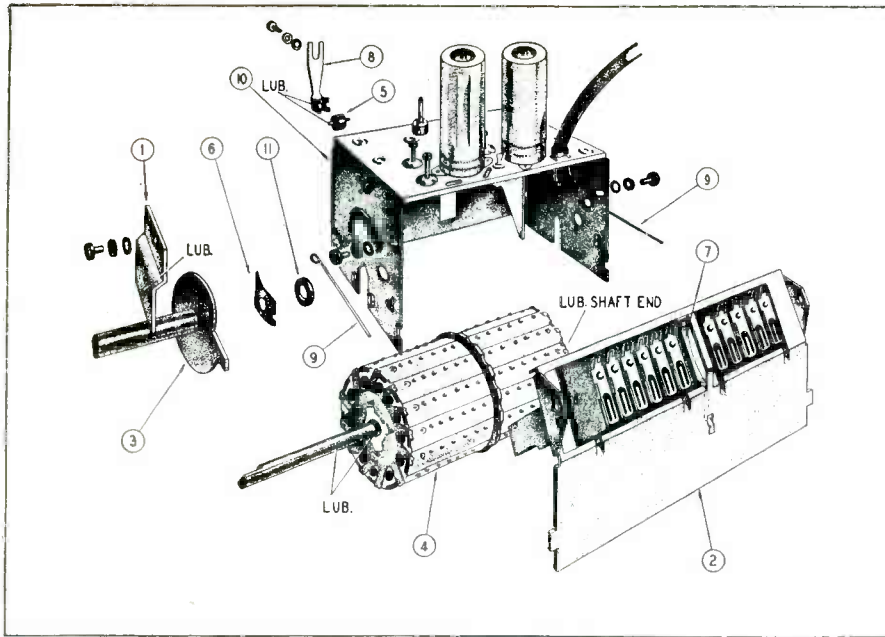

Fig. 3-58: Exploded view of Philco 12-position turret tuner. Item 8 in this figure is the detent roller pressure spring. The roller itself is shown as item 5.
anism consists of a roller (see *Fig. 3-62*) which rotates in a grooved plate mounted around the approximate center of the drum. Pressure of this roller against the grooves is applied by means of a spring (see items 8 and 5 in *Fig. 3-58*) mounted on the tuner chassis. Spring tension is controlled by moving this spring along its holding screw and nut until the roller provides maximum tension with the drum.
It has been found by at least one manufacturer that the retainer spring of the Standard Tuner (see item 6, Fig. 3-58) which supports the turret in the tuner housing, often does not exert sufficient pressure against the turret, resulting in poor indexing. To correct this condition a .057" spring is recommended to replace the original spring which has a thickness of .049".